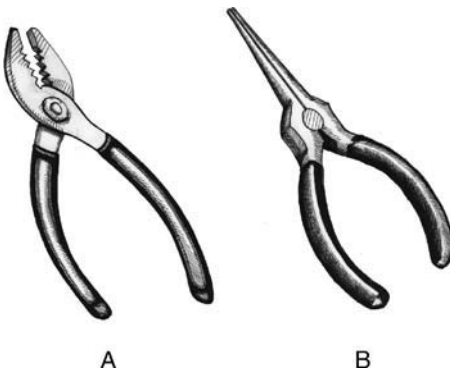

Figure D.5
- Regular and needle-nose pliers (see Figure D.5)